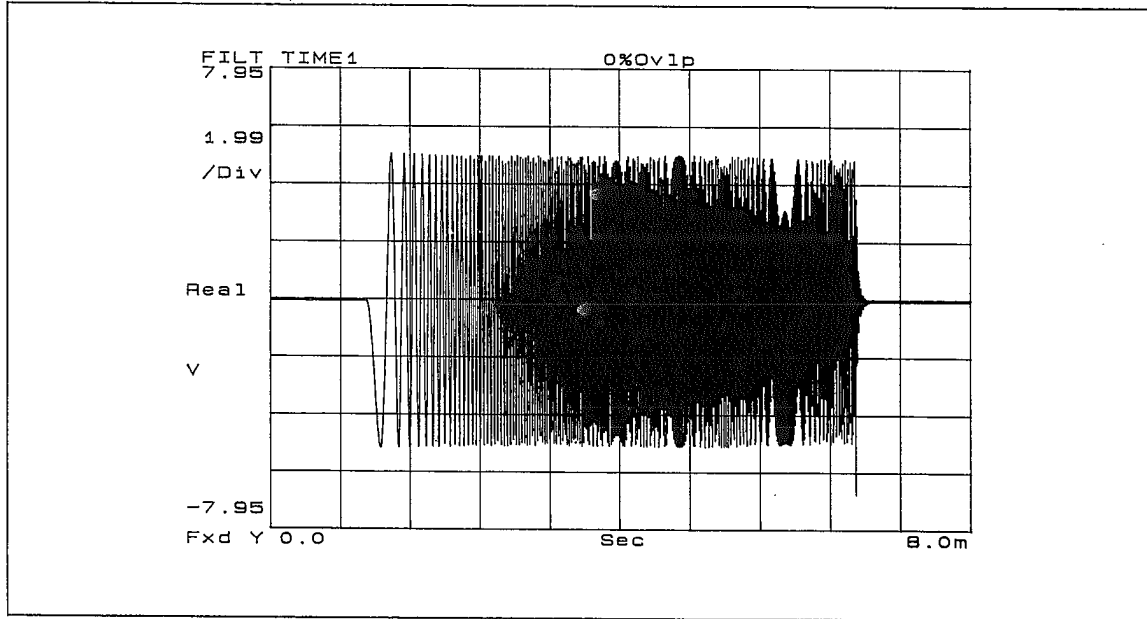

Figure 7-8 Burst Chirp
5. Refer to figure 7-8 to verify a normal burst chirp.